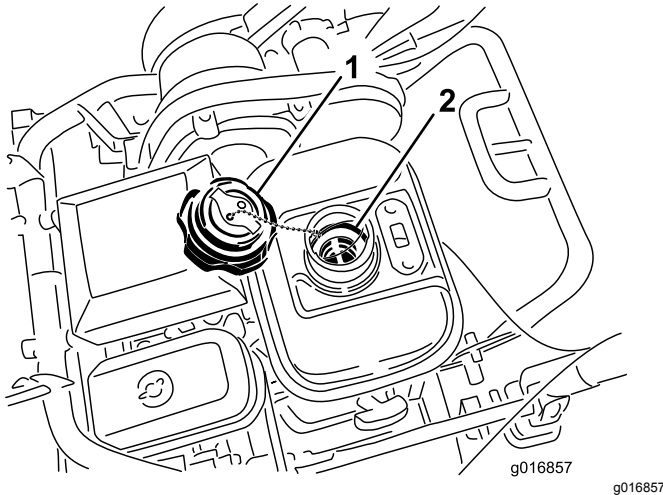

Figure 35
1. Unscrew and remove the fuel-tank cap from the fuel tank (Figure 35).